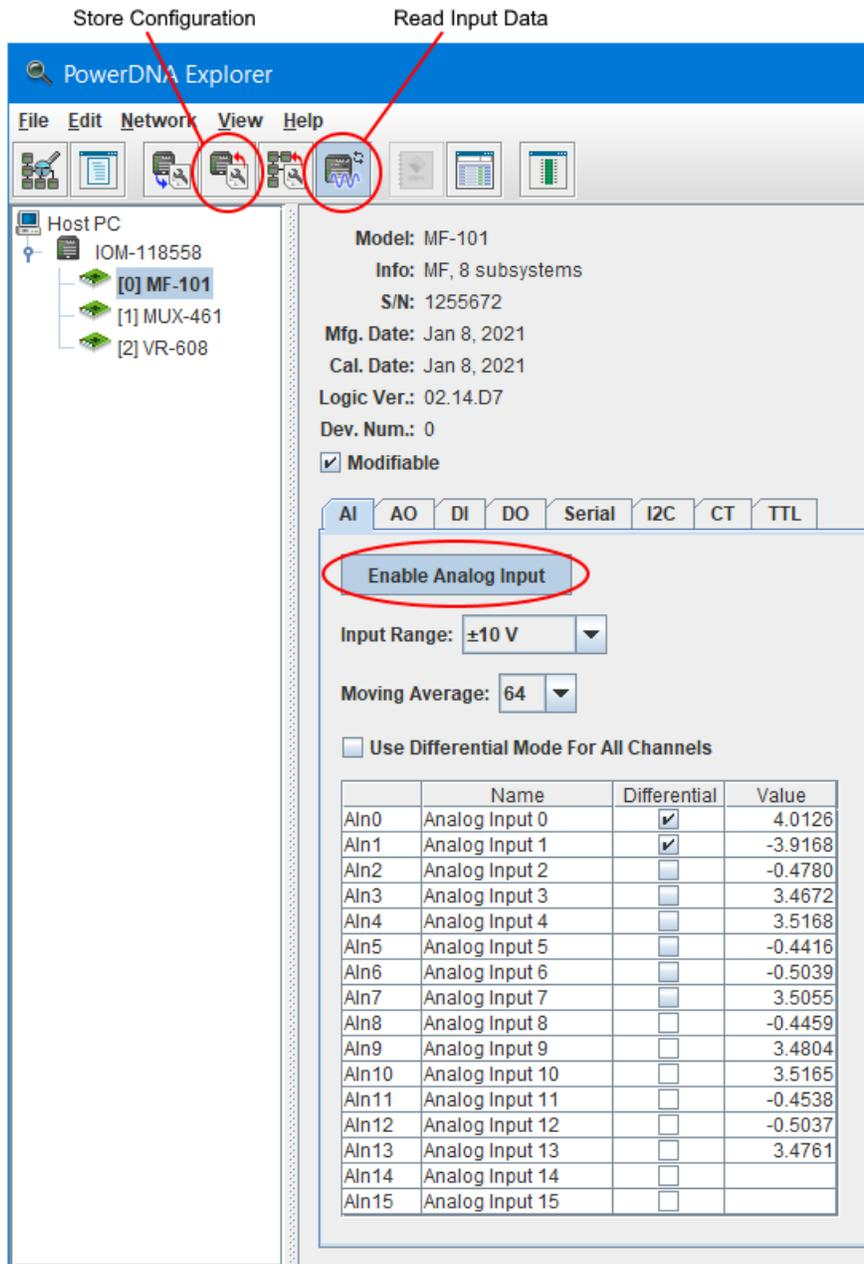

Figure 5-5 Power DNA Explorer AI Tab
To explore the analog input subsystem, select the AI tab (Figure 5-5) and click the **Enable Analog Input** button.
- **Differential**: sets the individual channel to differential mode. For example, in **Figure 5-5**, channels AIn0 and AIn1 read differential data from pins AIn0+/0 and AIn1+/-, while channels AIn2:13 read single-ended data from pins AIn4:15.